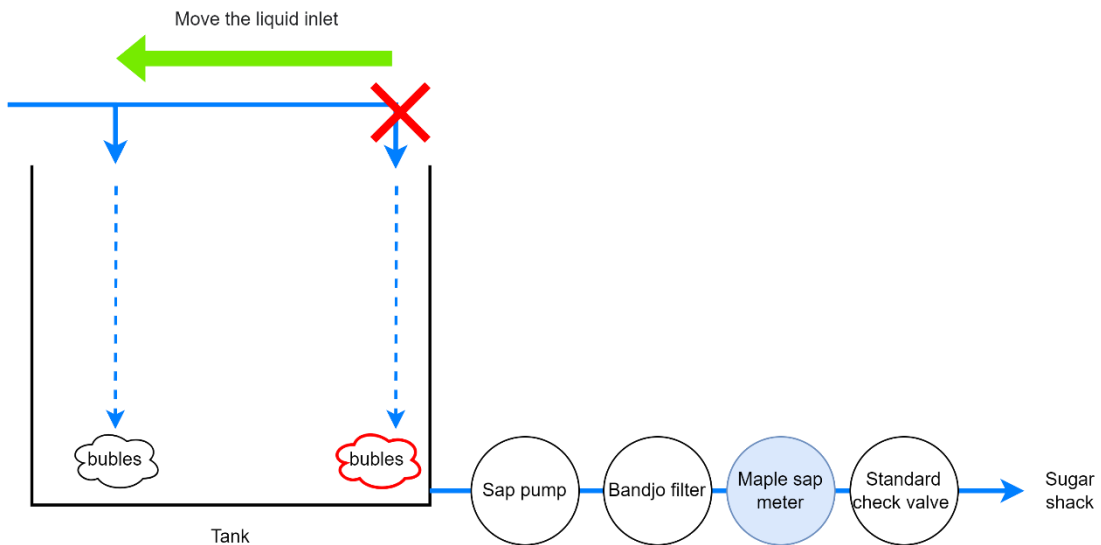

Figure 9: Move the maple sap inlet to prevent bubble formation at the pump suction.
- Relocate the maple sap inlet to prevent it from flowing into the suction side of the tank sap pump at the tank outlet (see figure 9 below).